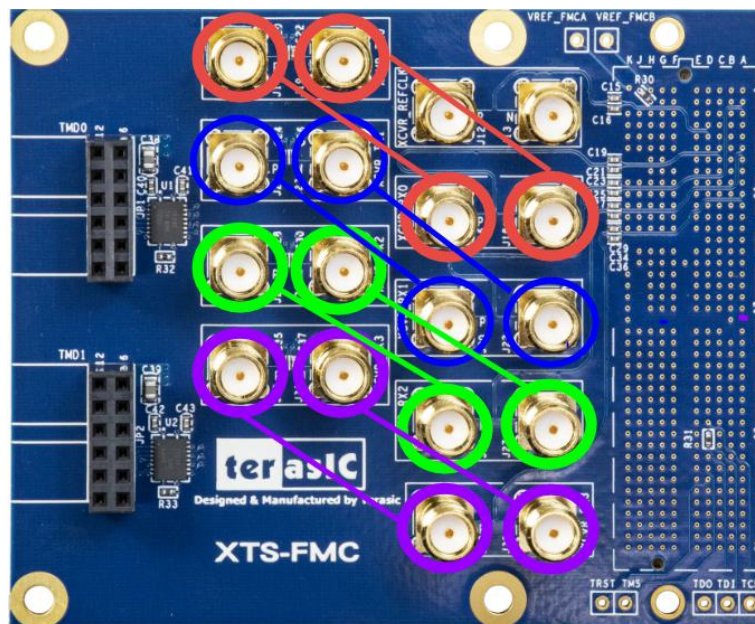

Figure 4-1 SMA loopback setup
1. Use the SMA cables to connect the TX ports and the RX ports on the XTS-FMC card to implement the loopback function (See Figure 4-1, Figure 4-2). There are four channels in total, note the difference between positive and negative ports.